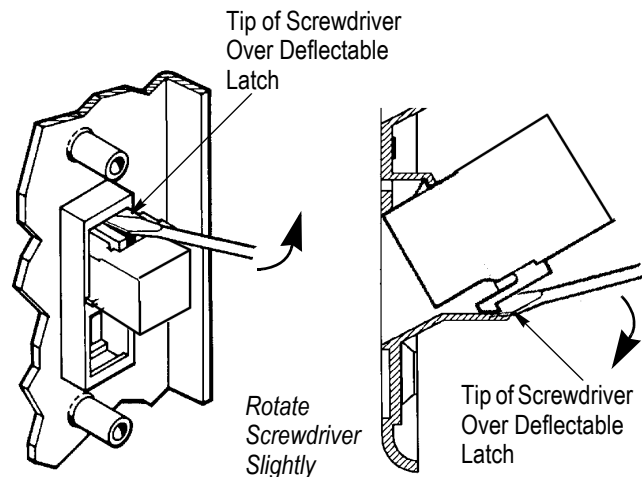

Figure 3
1. Insert a screwdriver tip over the deflectable latch of the jack or insert, and rotate it slightly to release the deflectable latch. Refer to Figure 3.
- Replaced “pry down” with “rotate” in Section 4, and added arrows to Figure 3